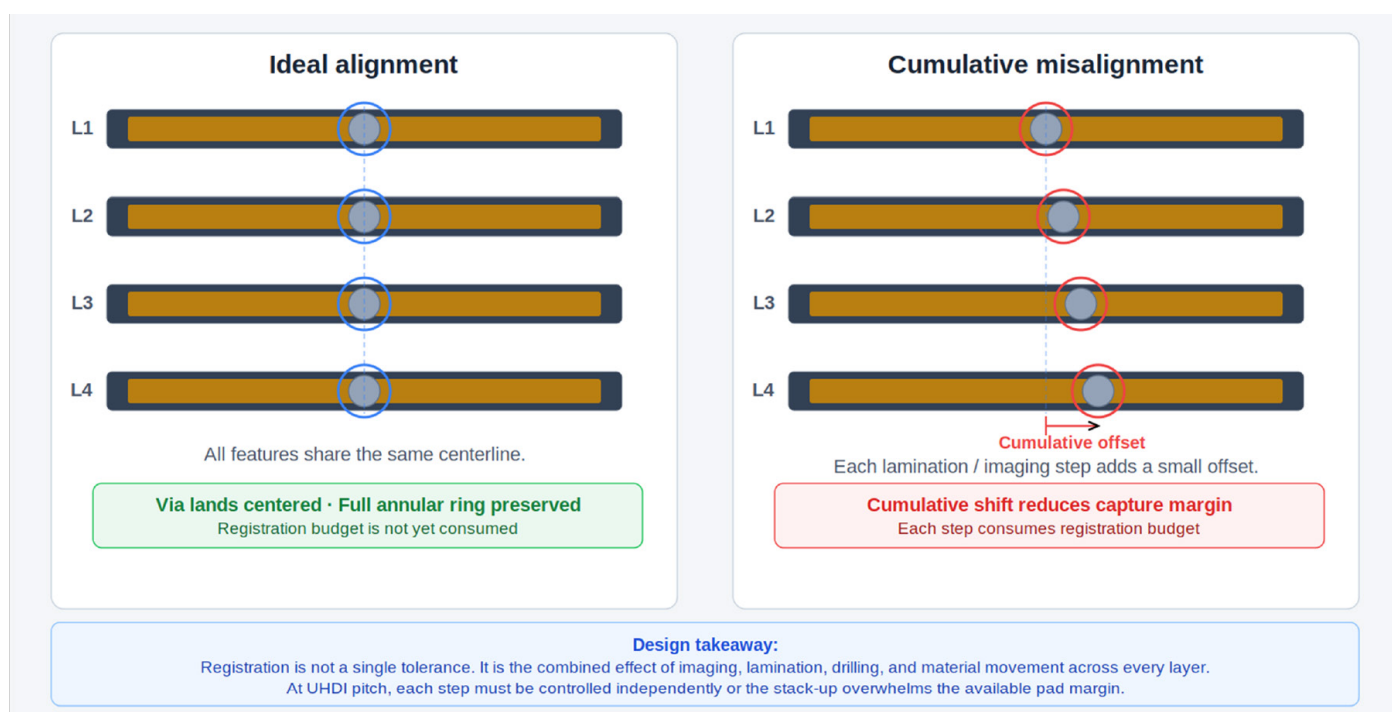

Figure 1. Registration stackup concept showing how small layer-by-layer shifts accumulate into meaningful final misregistration in a UHDI structure.
**Figure 1** illustrates this point. Registration is not best viewed as a single number attached to one process step. In UHDI, it is the combined result of material movement, lamination behavior, imaging accuracy and drilling position through the entire build sequence.